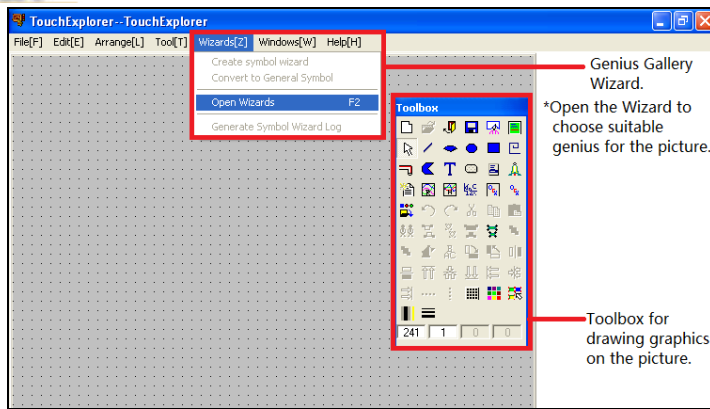

Fig. 23 Toolbox and Genius gallery
After creating the picture, we need to create a graphic object to show the data from “Simulate PLC”. KingView has a tool box to help you to make the graphics. You can also use the genius in the gallery to easily make the graphics. See Fig. 23.
1. From “TouchExplorer”, open the genius wizard by selecting “Open Wizard” from the wizard drop-down menu or pressing F2; See Fig. 23.